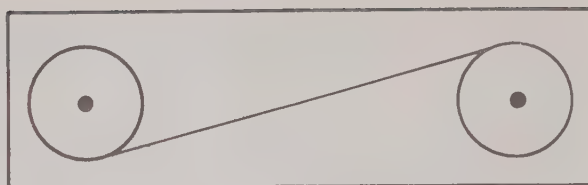

Figure 2-4. Threading Direction for Ribbon Spools
- b. Refer to Figure 2-4 and ensure that the ribbon is properly threaded on the spools.